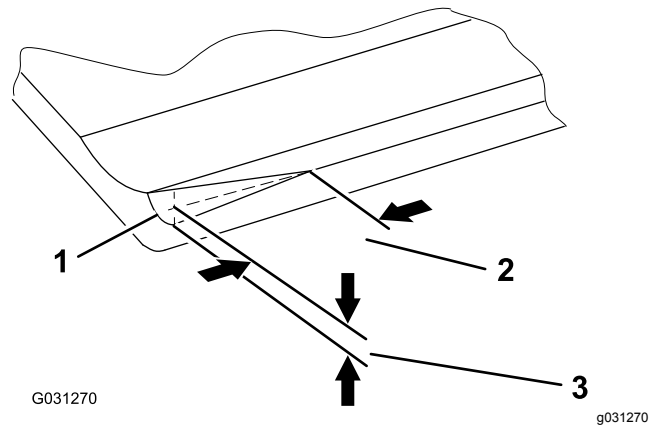

Figure 11
**Note:** Over time, you will need to grind the chamfer (Figure 11), as it is only designed to last 40% of the bedknife life.